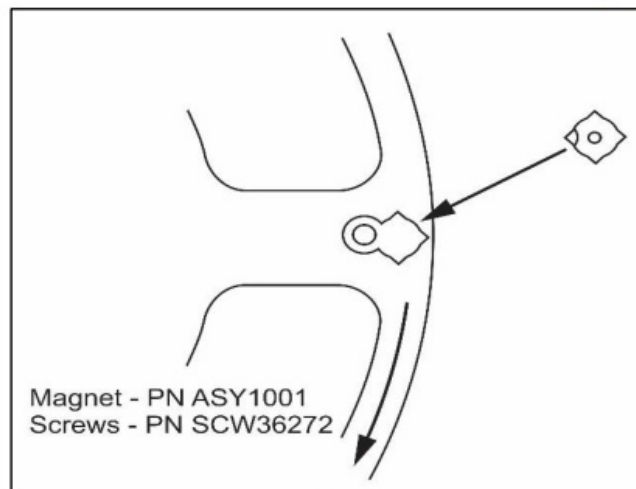

Figure 5: Installing the Magnet
4. Install the magnet in the wheel with the hole in the plastic over molding facing out from the engine (Figure 5 above). The chamfer on the magnet must be positioned next to the chamfer on the wheel.